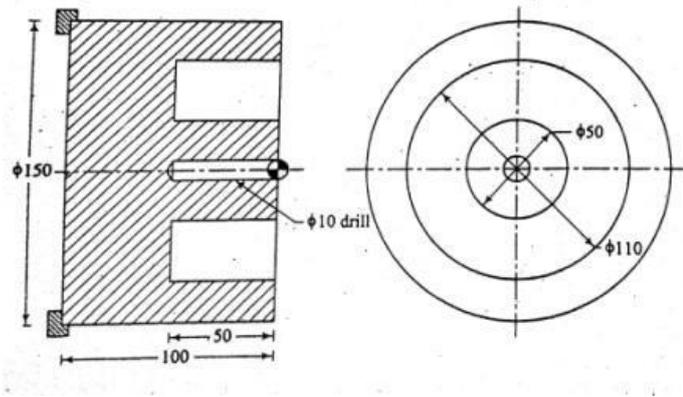

Fig 3
- (c) Write a part program using G74 to drill a central hole and face groove as shown in fig.3 **07**